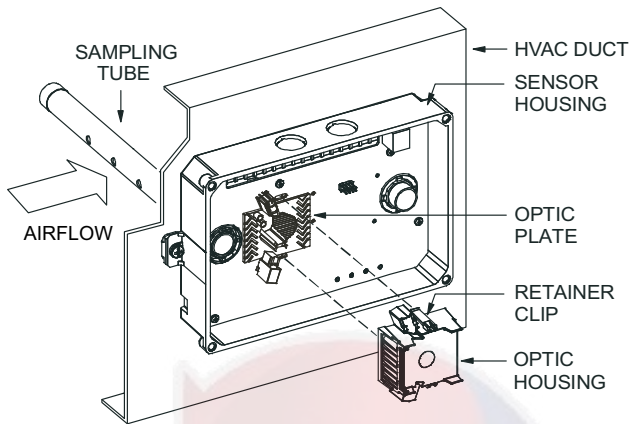

Fig. 43 — Sensor Cleaning Diagram
1. Disconnect power from the duct detector then remove the sensor’s cover. (See Fig. 43.)